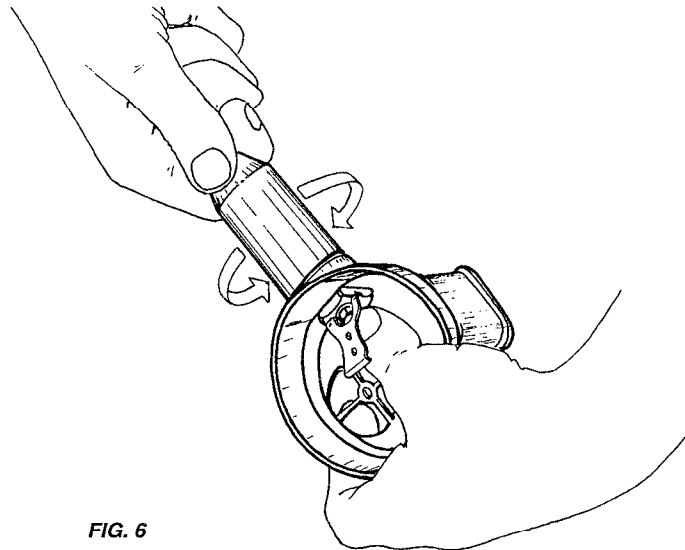

FIG. 6
10. Place O-Ring (83) in its seat on the case, using the special tool (B-6). (Fig. 6)